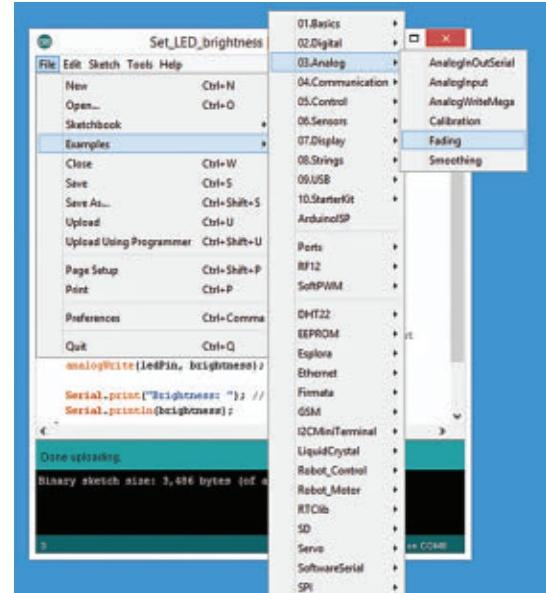

FIGURE 16: Select the Arduino Fading example.
- ❑ Open the Arduino file menu and select File/Examples/Analog/Fading as shown in **Figure 16**.